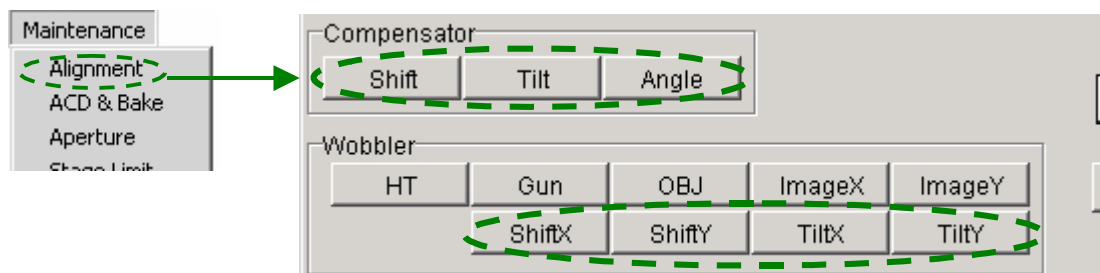

Fig. 5.26 Alignment Panel for Maintenance window (Deflection-coil adjustment using the circled buttons)
- ☞ When you turn the BRIGHTNESS (L1-⑥) knob slowly back and forth through the focus position, the electron beam spot is elliptical if astigmatism exists in the condenser lens.
- ◆ Select **Maintenance** from the **TEM Controller** menu bar and click on **Alignment** to open the **Alignment Panel for Maintenance** window (☞ Fig.5.26).
2. Focus the electron beam using the BRIGHTNESS knob (L1-⑥).
3. Press BRIGHT TILT (I1-⑤) or click on DEF Select **CLA** in the **Alignment Panel for Maintenance** window.
4. Center the electron beam using the SHIFT knobs (L1-⑧, R1-③).
5. Click on Compensator **Tilt** in the **Alignment Panel for Maintenance** window (☞ Fig.5.26).
7. Unify the split spot using the DEF/STIG X knob (L1-⑩).
- ✎ If the electron beam spot splits into two parts in the Y direction, click on Compensator **Angle** in the **Alignment Panel for Maintenance** window (☞ Fig.5.26); then unify the split spot using the DEF/STIG X knob (L1-⑩). After making sure that the spot is unified, click on Compensator **Angle** to turn it off.
9. If the electron beam moves off the screen center as you turn the BRIGHTNESS knob, center the beam using the SHIFT X and Y knobs (L1-⑧, R1-③) after pressing BRIGHT TILT (L1-⑤) or clicking on DEF Select **CLA** in the **Alignment Panel for Maintenance** window.
11. Unify the split spot using the DEF/STIG Y knob (L1-④).
- ✎ If the electron beam spot splits into two parts in the X direction, click on Compensator **Angle** in the **Alignment Panel for Maintenance** window (☞ Fig.5.26); then unify the split spot using the DEF/STIG Y knob (R1-③). After making sure that the spot is unified, click on Compensator **Angle** to turn it off.
12. If the electron beam moves off screen center as you rotate the BRIGHTNESS knob, center the beam using the SHIFT X and Y knobs (L1-⑧, R1-③) after pressing BRIGHT TILT (L1-⑤) or clicking on DEF Select **CLA** in the **Alignment Panel for Maintenance** window.
✍ If the electron spot splits into two parts in the Y direction, click on Compensator **Angle** in the **Alignment Panel for Maintenance** window (☞ Fig.5.26); then unify the split spot using the DEF/STIG X knob (L1-⑩). After making sure that the spot is unified, click on Compensator **Angle** to turn it off.
8. If the caustic spot moves off the screen center as you turn the BRIGHTNESS knob, center the beam using the DEF/STIG X and Y knobs (L1-⑩, R1-④) after pressing BRIGHT TILT (L1-⑤) or clicking on DEF Select **CLA** in the **Alignment Panel for Maintenance** window.
✍ If the electron spot splits into two parts in the X direction, click on Compensator **Angle** in the **Alignment Panel for Maintenance** window (☞ Fig.5.26); then unify the split spot using the DEF/STIG Y knob (R1-④). After making sure that the spot is unified, click on Compensator **Angle** to turn it off.
13. If the caustic spot moves off screen center as you turn the BRIGHTNESS knob, center caustic spot using the DEF/STIG X and Y knobs (L1-⑩, R1-④) after pressing BRIGHT TILT (L1-⑤) or clicking on DEF Select **CLA** in the **Alignment Panel for Maintenance** window.